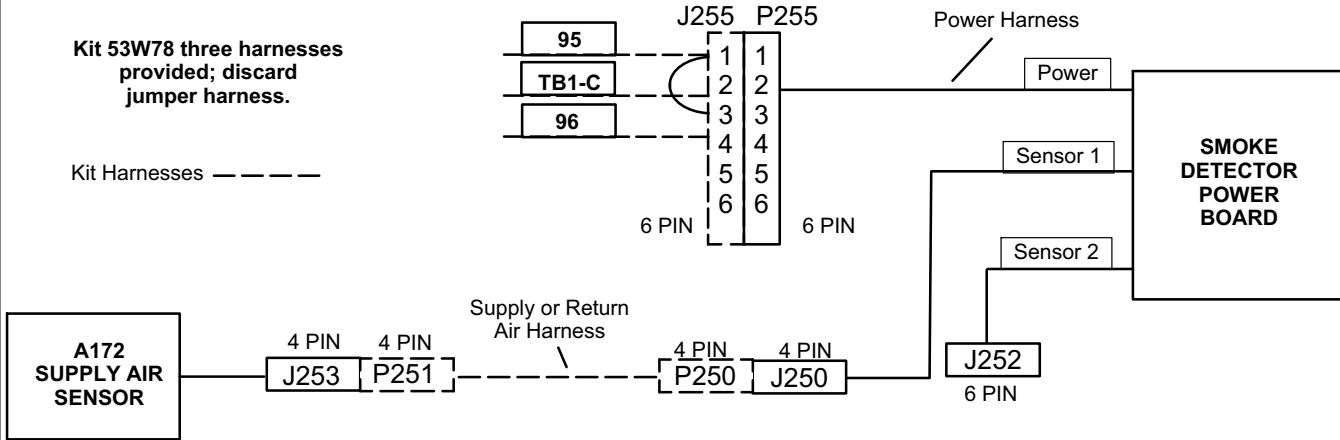
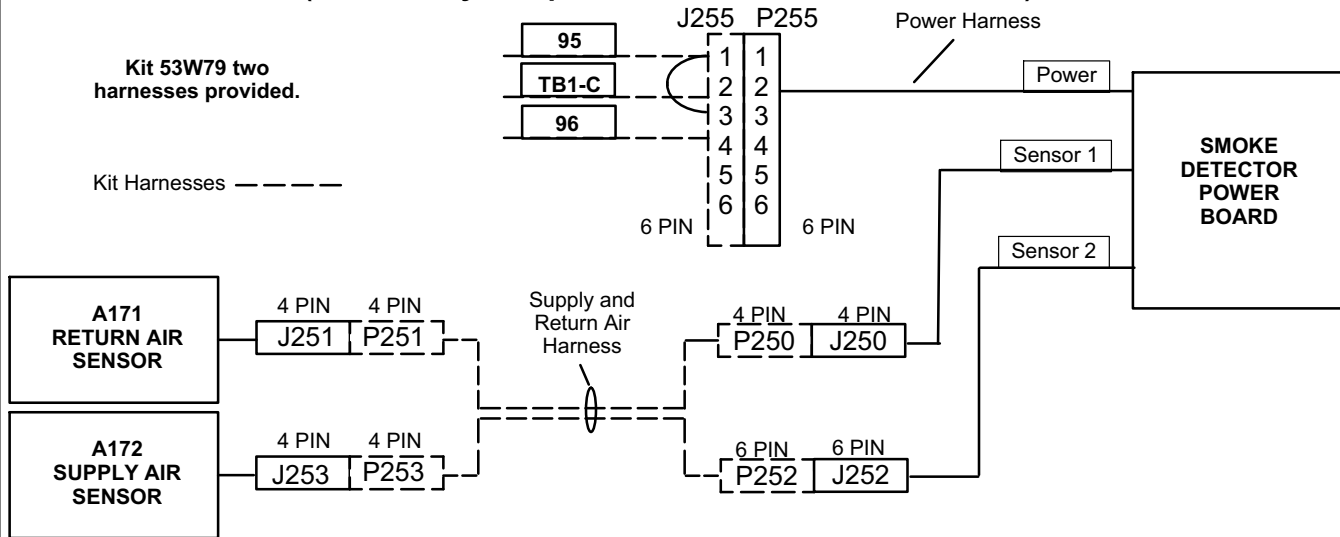

**FIGURE 9**
**FIGURE 10**
- 4 - Make jack/plug connections as shown in figure 9 when installing return air smoke detector only, figure 10 when installing supply air smoke detector only, and figure 11 when installing both supply and return air smoke detectors. Refer to respective wiring diagrams in figure 12, 13 and 14.